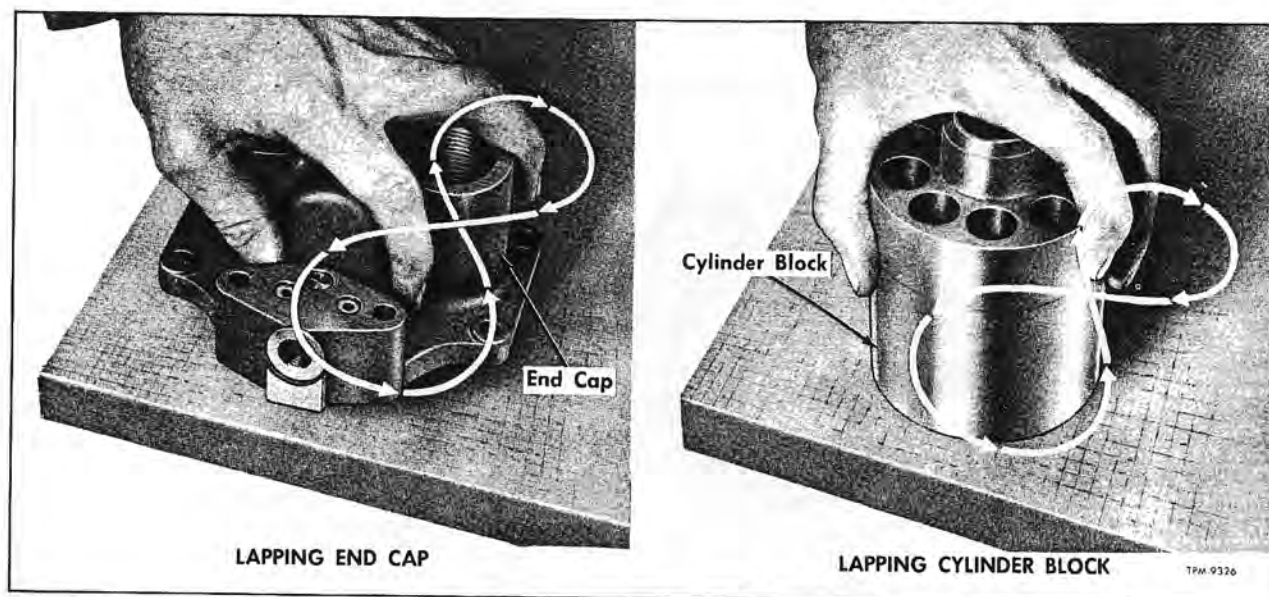

Figure 48—Lapping Pump Cylinder Block and End Cap
1. If cylinder block (13) or end cap (19) sealing surfaces are grooved or scored, it will be necessary to lap surfaces of both parts in manner shown in figure 48. Use fine lapping compound. Use
1. If cylinder block (16) or end cap (1) sealing surfaces are grooved or scored, it will be necessary to lap surfaces of both parts as shown typically in figure 48. Use fine lapping compound. Use kerosene or solvent to thoroughly wash and clean parts including bores, and remove any lapping compound that may be present on the sealing or valving surfaces.